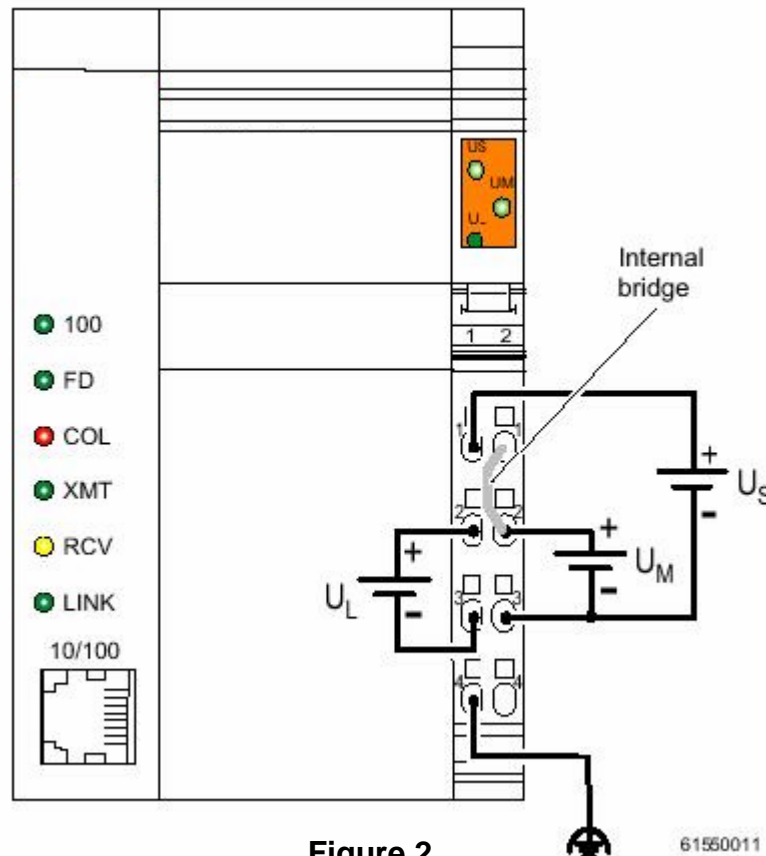

Figure 2
- Connect +24VDC to pins 1.1, 1.2, and 2.2 on the CON-IOE. (See Figure 2)
- Connect -24VDC to pins 1.3 and 2.3 on the CON-IOE. (See Figure 2)